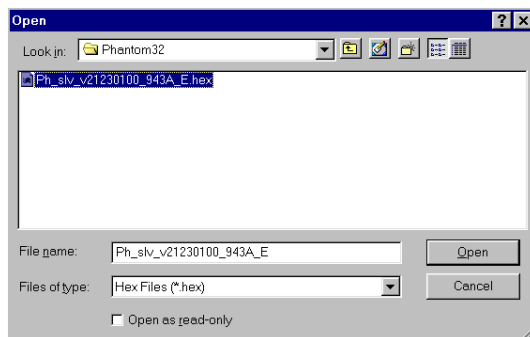

Figure 8-6 The Mask for a Slave computer
4. From the **File** menu, choose **Open**. The **Open** box appears. See Figure 8-6.